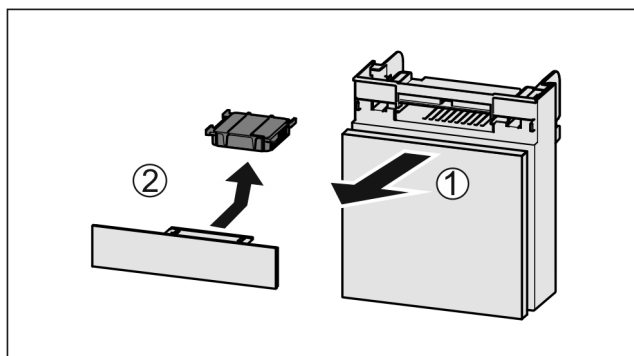

Fig. 132
- Pull out the compartment Fig. 132 (1).
- Remove the carbon filter Fig. 132 (2).